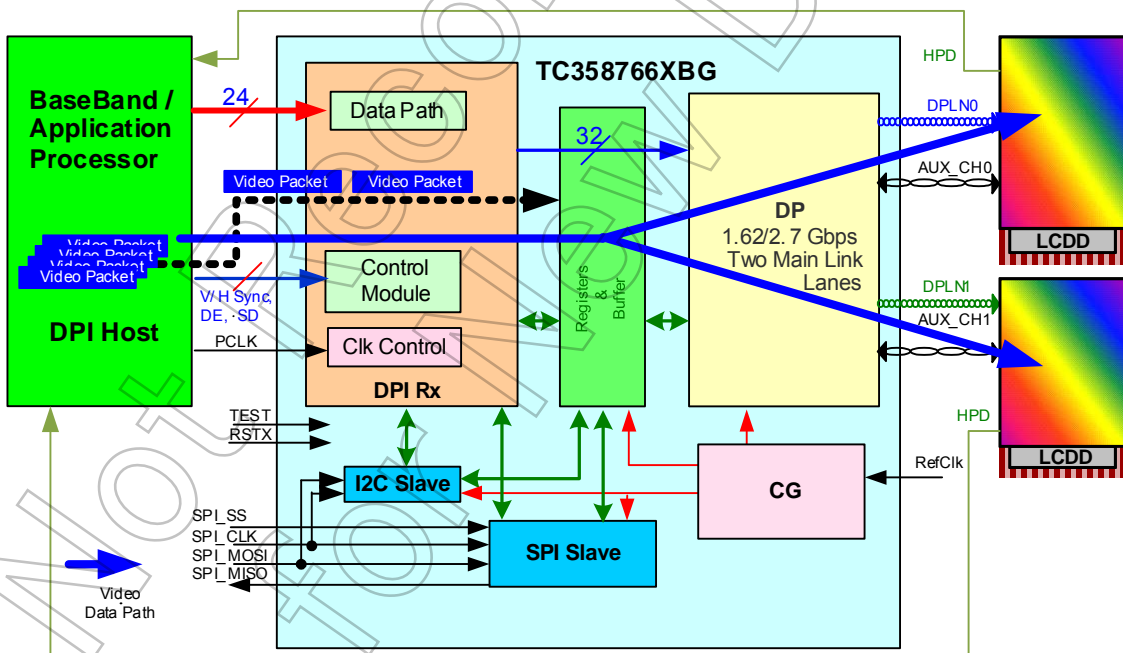

Figure 1.4 System Overview with TC358766XBG in MODE_P22 Configuration
- **Mode_P22:** An alternate system configuration where TC358766XBG may typically be used is shown in Figure 1.4. This is similar to the Mode_S22 except that the video stream source is from DPI Host. Same video stream is displayed on both display devices. In this configuration, the TC358766XBG can support displays with resolution up to WXGA+, WSXGA (1440x900) at 24bit, 60 fps or WSXGA+ (1680x1050) at 18bit, 60 fps.